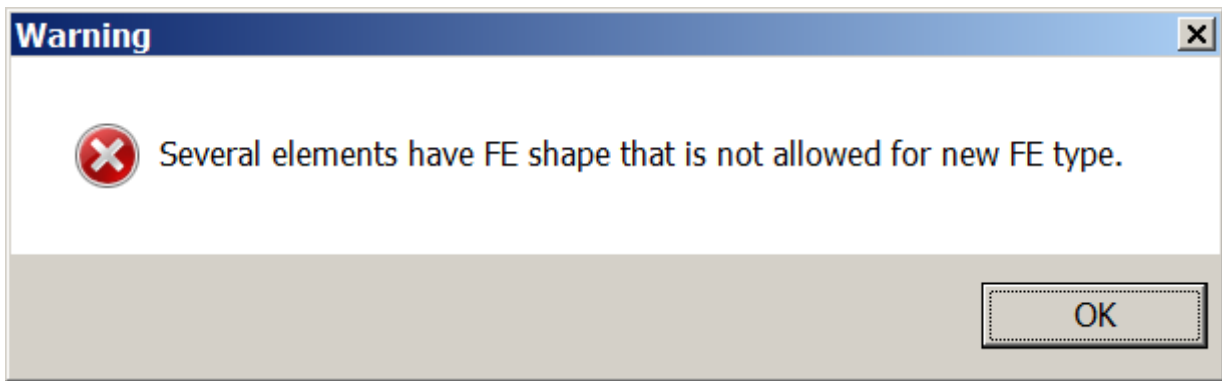

Figure 16.13 Warning box
- ⇒ The **Warning** box is displayed (see Fig.16.13). Click **OK**.